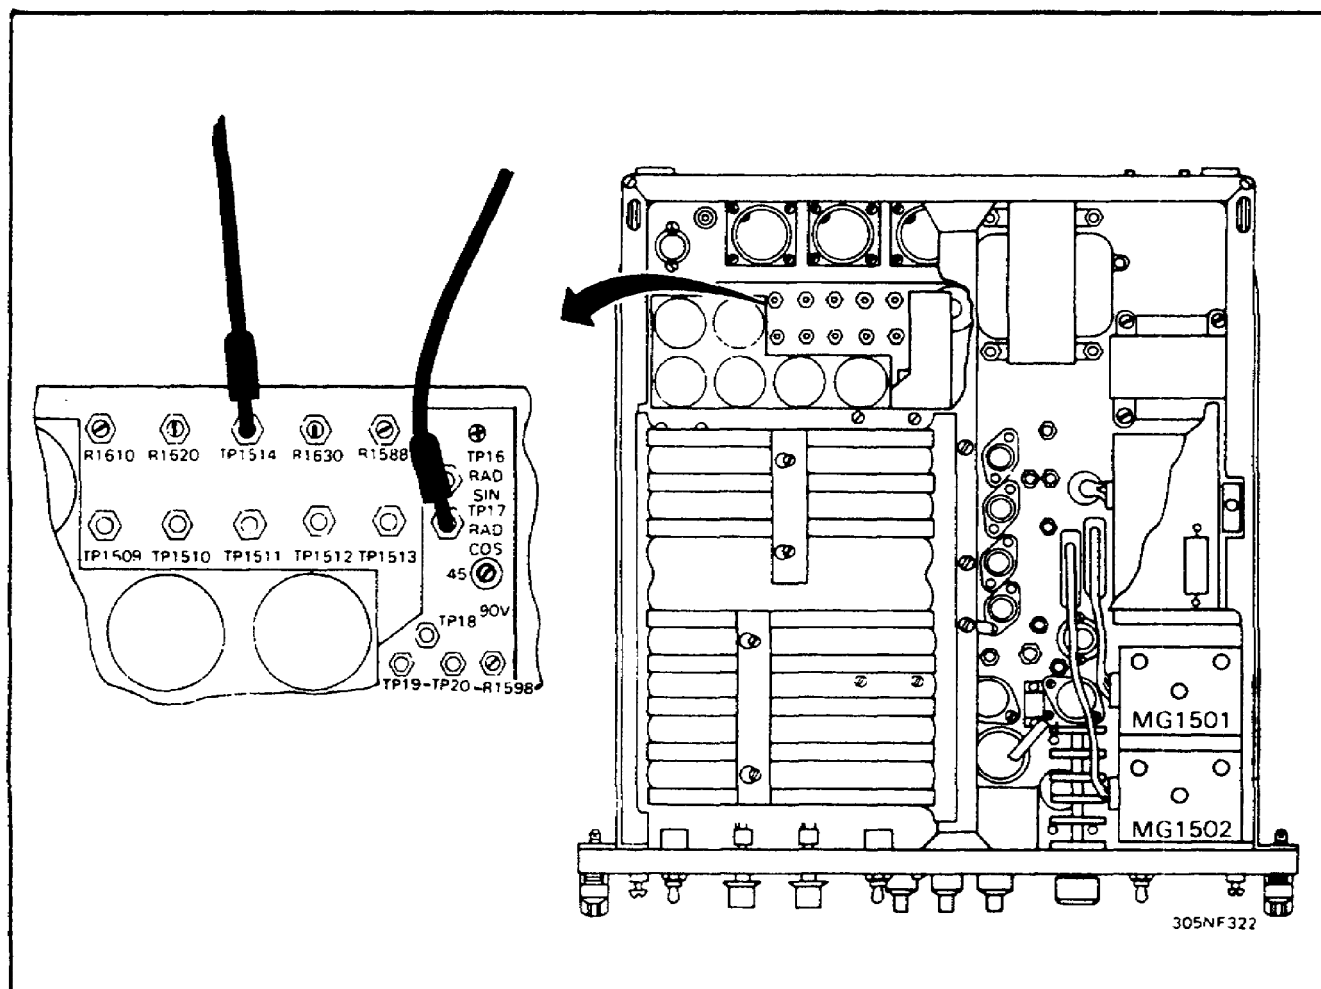

Figure 18. Radar cosine test connection.
k. Connect the multimeter between the radar cos test point TP-1517 and ground test point TP-1514. (See Figure 18.)